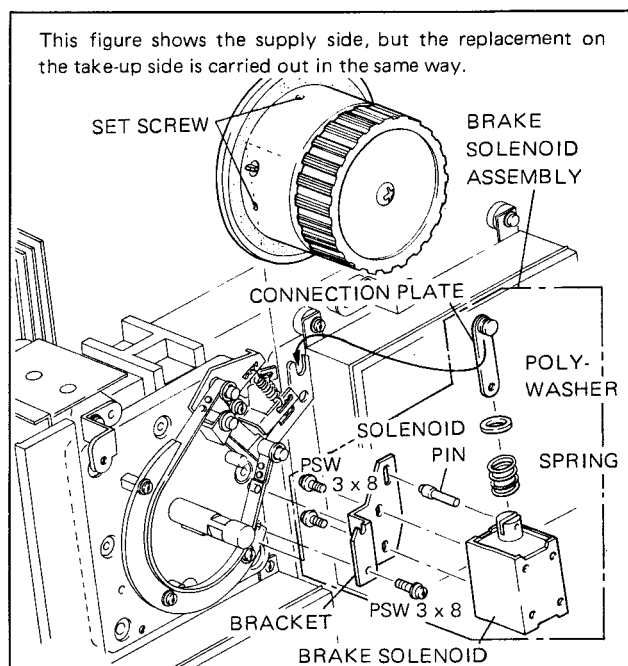

Fig. 3-36. Brake Solenoid Replacement
2. Remove one screw (PSW3×8) shown in Fig. 3-36, and remove the brake solenoid assembly.
3. Disassemble the brake solenoid assembly under reference to Fig. 3-36.
6. Lightly fix the solenoid assembly with one screw (PSW3×8) in the position shown in Fig. 3-36.